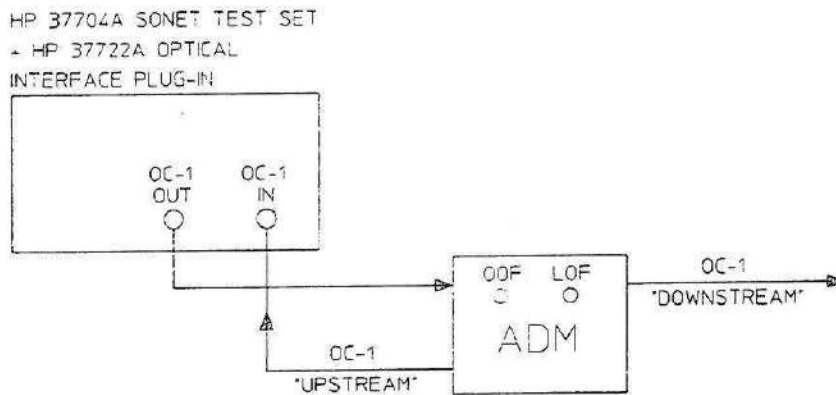

Figure 2-4. Frame Synchronization
1. Connect the HP 37704A to the network equipment, as shown in Figure 2-4, and set up the **TRANSMIT** **SETTINGS CONTROL** display as shown below.